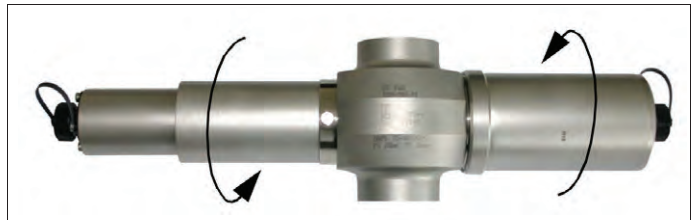

Fig. 6 Installed sensor, example TF16-N sensor
5. Screw on sensor assemblies for detector and lamp sides to the sensor body hand-tight (right-hand thread, fig. 6). It is recommended to use the supplied installation paste.